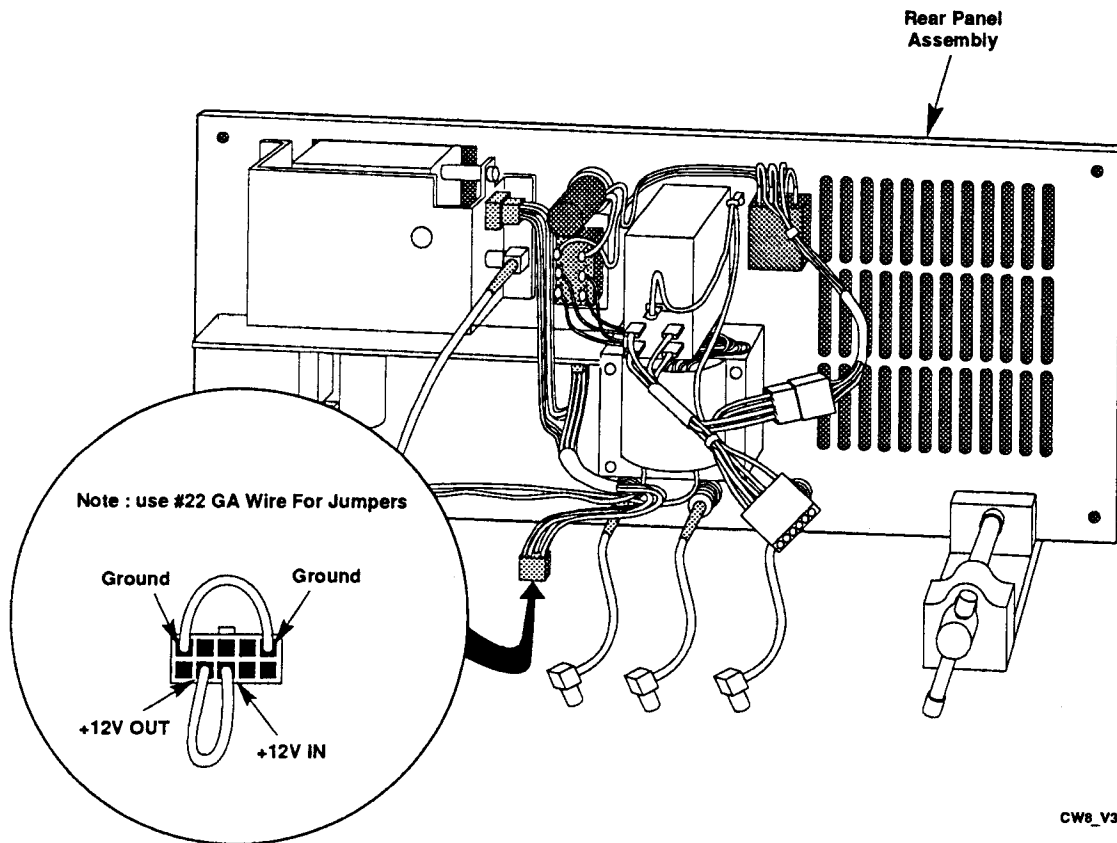
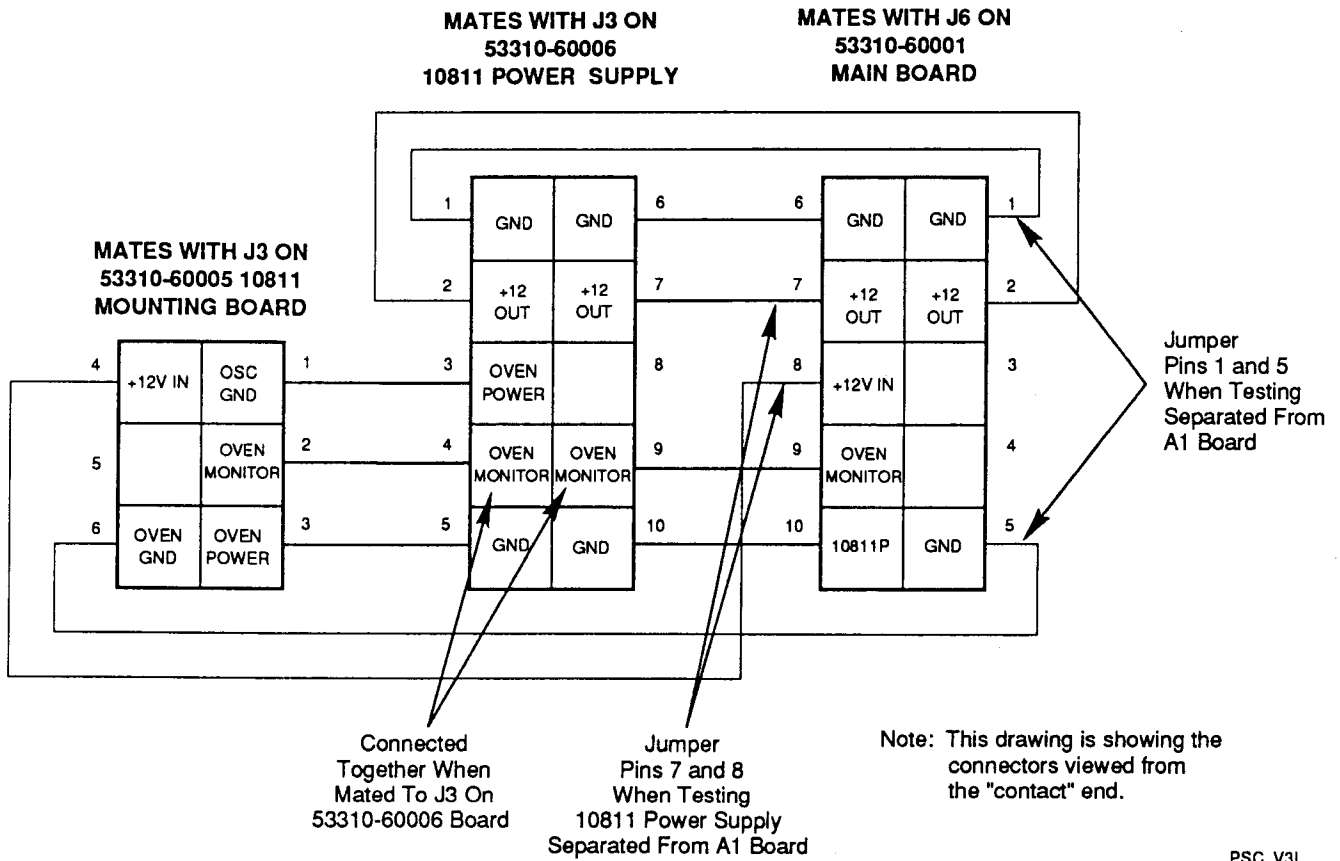

Figure 4-29. Cable W8 Oscillator Power Plug With Jumpers (Option 031 not shown)
Figure 4-30. Option 010 Oven Oscillator Cable (W8) Wiring Diagram
- d. Install these jumpers as shown in *Figure 4-29*. *Figure 4-30* is a complete wiring diagram of cable W8. Refer to it as needed.
Since A1 provides "jumpers" for ground and +12V to the oscillator, check cable W8 against *Figure 4-30* before replacing A1.
- h. If pin 9 is not low, trace through cable W8 as shown in *Figure 4-30* for problem.